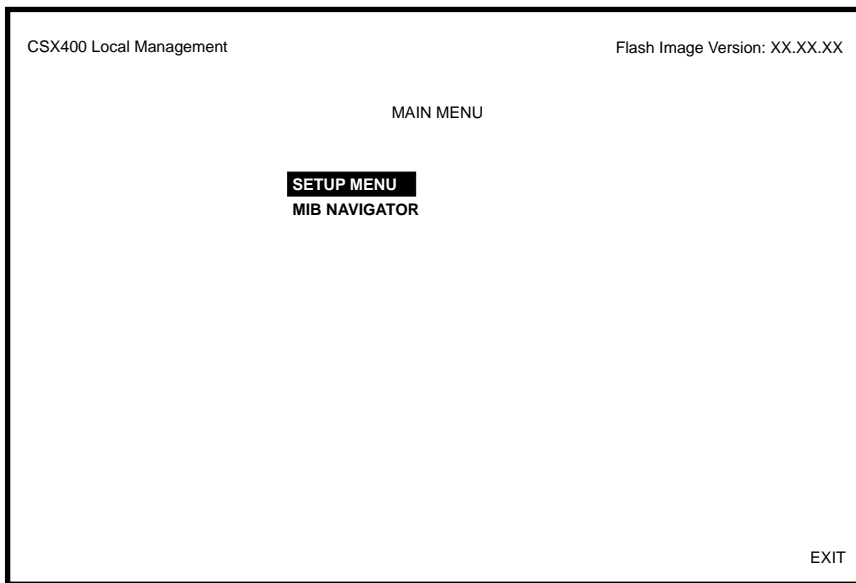

Figure 57 Main Menu Screen
- If you enter a valid password, the associated access level displays at the bottom of the screen and the Main Menu screen, shown in **Figure 57**, displays.
The Main Menu screen is the starting point from which all the Local Management screens are accessed. **Figure 57** shows the Main Menu screen.